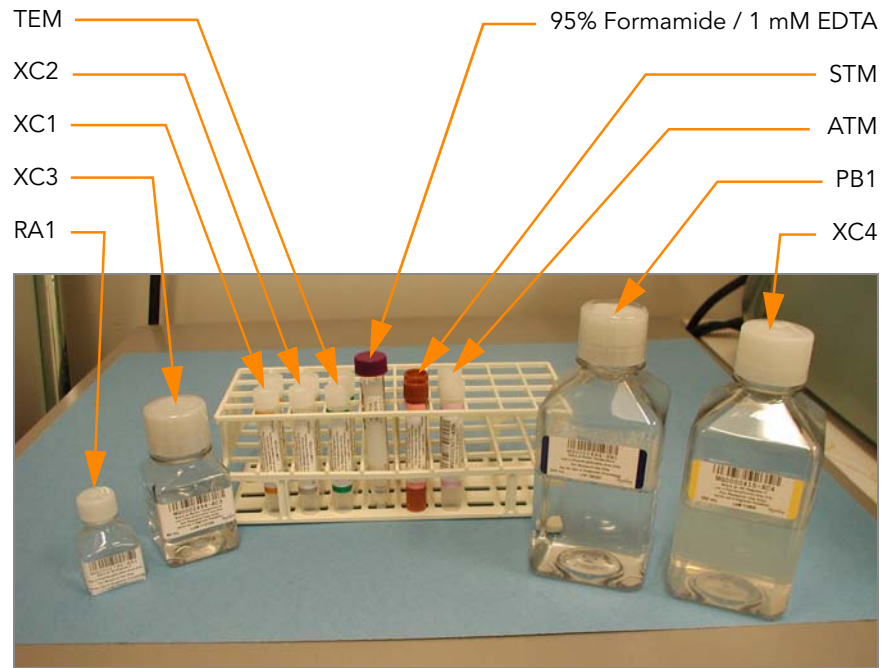

Figure 59 XStain HD BeadChip Reagent Tubes and Bottles
- ▶ Place all reagent tubes in a rack in the order in which they will be used (Figure 59). If frozen, allow them to thaw to room temperature and centrifuge to 3000 xg for 3 minutes.